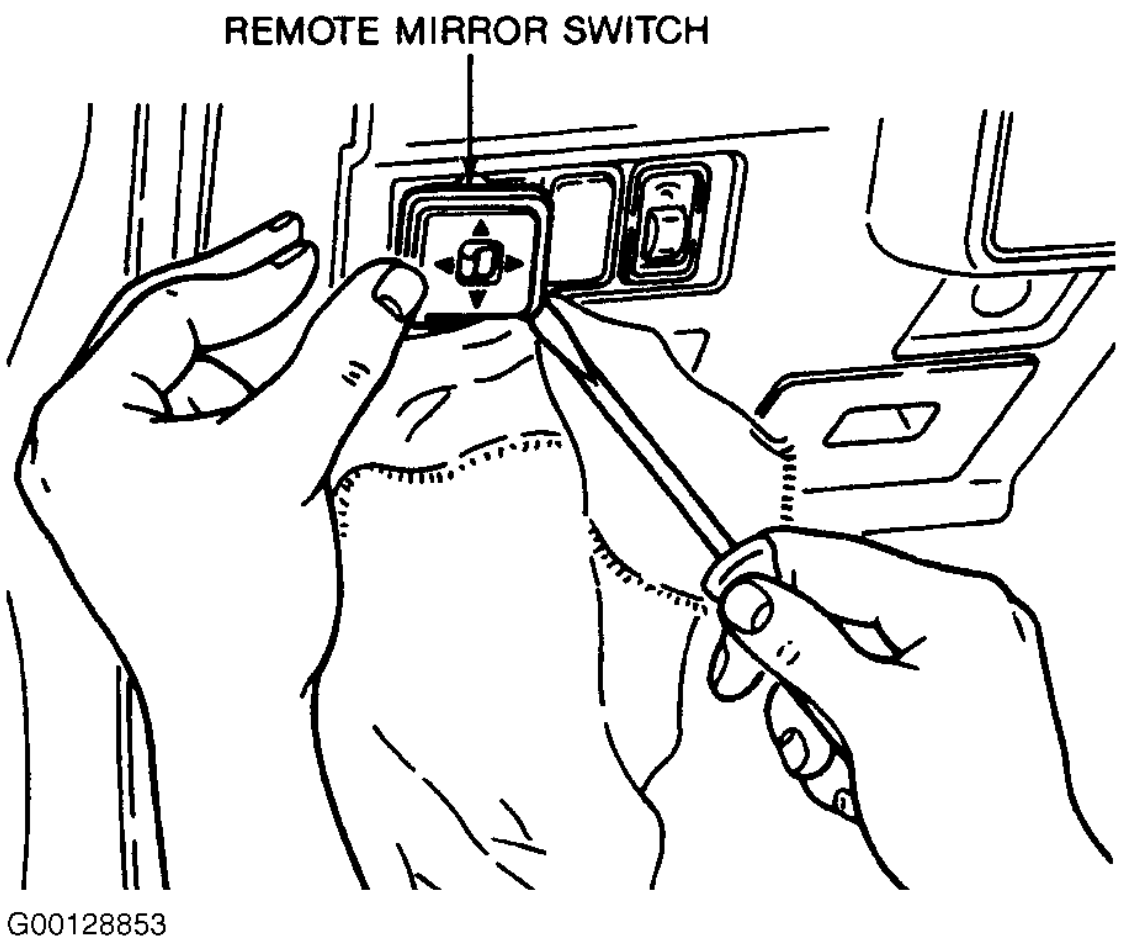

Fig. 11: Removing Remote Mirror Switch
3. Using a screwdriver, pry at the bottom of the switch casing to loosen the remote mirror switch. See Fig. 11. To prevent marring the instrument panel, place a pad or clean rag between the blade and the instrument panel.